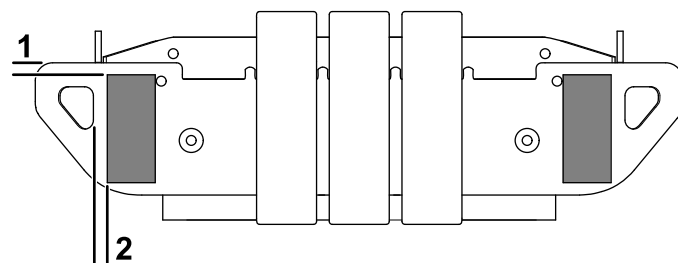

**Figure 24**
11. Secure the assembled slow-moving vehicle sign to the hood using 4 flange-head bolts (1/4 x 3/4 inch), 2 back mounts, and 4 locknuts (1/4 inch) as shown in Figure 24.